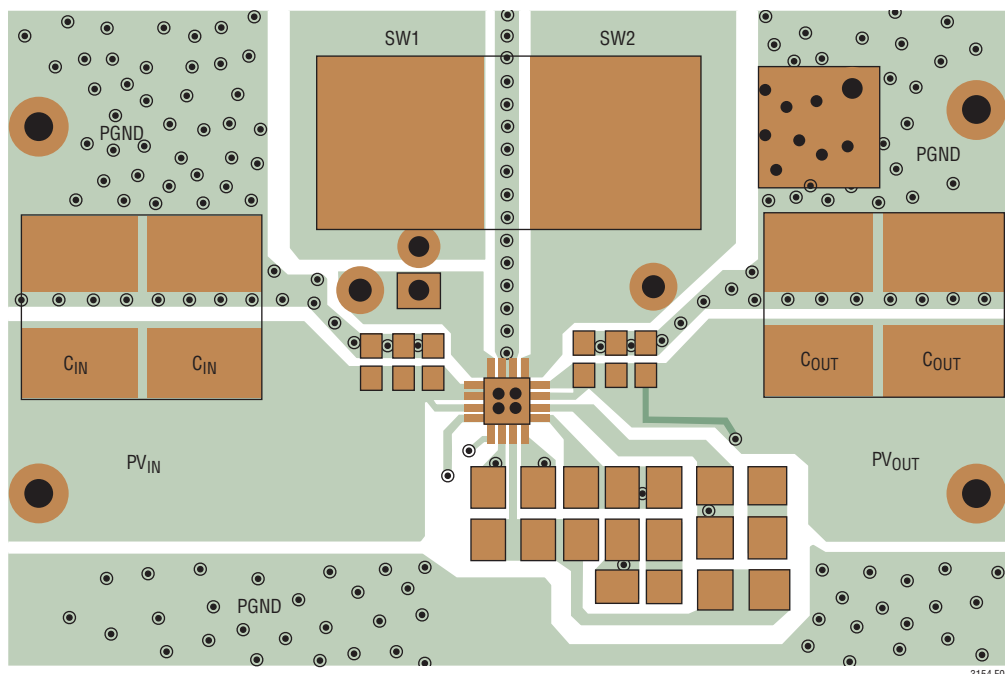

Figure 4. Example PCB Layout, Top Layer is Shown, Bottom Layer is Mostly PGND Plane
pad connection underneath the IC package to other PCB layer(s) containing large copper planes. A recommended board layout incorporating these concepts is shown in Figure 4. Typical temperature rise versus load current curves using Figure 4 PCB are given in the Typical Performance Characteristics section.
The LT3154 switches large currents at high frequencies. Special attention should be paid to the PCB layout to ensure a stable, noise-free and efficient application circuit. Figure 4 presents a representative PCB layout for the LT3154 to outline some of the primary considerations. A few key guidelines are outlined below:
1. All circulating high current paths should be kept as short as possible. This can be accomplished by keeping the routes to all bold boxed components in Figure 4 as short and as wide as possible. Capacitor ground connections should via down to the ground plane in the shortest route possible. The bypass capacitors on PV_{IN} and PV_{OUT} to PGND should be placed as close to the IC as possible and should have the shortest possible paths to ground. These connections should be made as wide as possible to reduce the series resistance. This will improve efficiency and maximize the output current capability of the buck-boost converter.